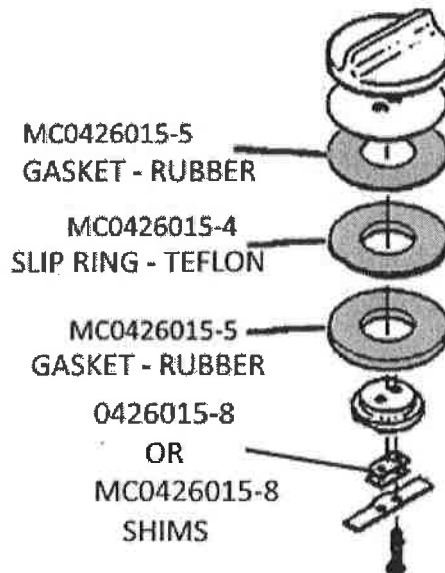

FIGURE 2 – Exploded View of Cessna Fuel Cap Assembly P/N 0426015-1 w/ McFarlane Gaskets, Slip Ring & Shims
- Remove (2) screws P/N AN530-10R12 from Fuel Cap Assembly
- Assemble McFarlane Replacement Gaskets (Qty 2) and Slip Ring (Qty 1) in the arrangement shown in Figure 2
- Replace the (2) screws previously removed to hold parts in place